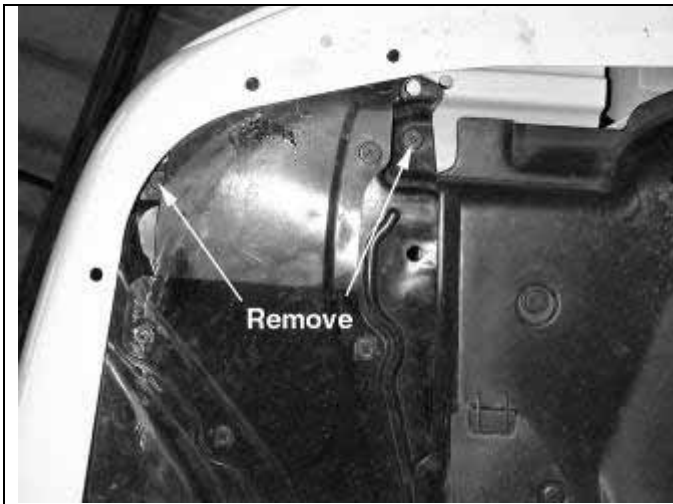

Fig. 3
- g. Remove the two plastic clips securing the wheel well liner to the underside of the vehicle's passenger side bumper. (Fig. 3) Your splash shield may look different if it's a 2004, if so you will only remove one clip.